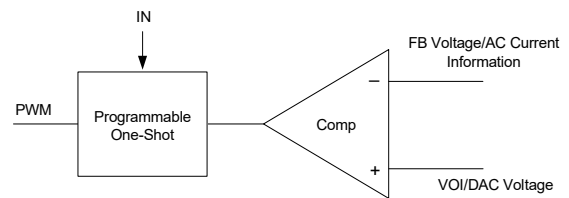

Figure 9. Simplified Control Schematic
The control algorithm of AOZ2231CQI-21 is constant-on-time PWM control with input feed-forward. The simplified control schematic is shown in Figure 9. The high-side switch on-time is determined solely by a one-shot whose pulse width is inversely proportional to input voltage (IN). The one-shot is triggered when the internal VOI/DAC voltage is higher than the combined information of output voltage and the AC current information of inductor, which is processed and obtained through the sensed low-side MOSFET current once it turns-on. The added AC current information can help the stability of constant-on-time control even with pure ceramic output capacitors, which have very low ESR. The AC current information has no DC offset, which does not cause offset with output load change, which is fundamentally different from other V^2 constant on-time control schemes.